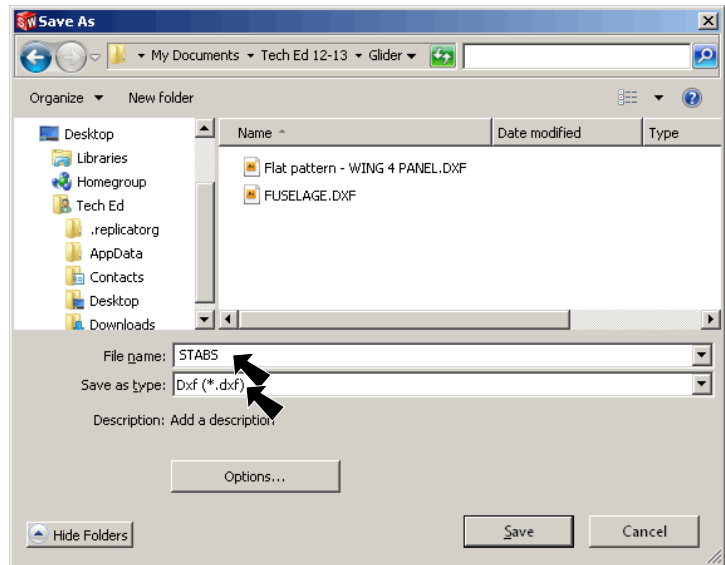

Fig. 43
Step 7. In the Save As dialog box: key-in **STABS** for file name change **Save as type: to Dxf** and click Save, **Fig. 43**.